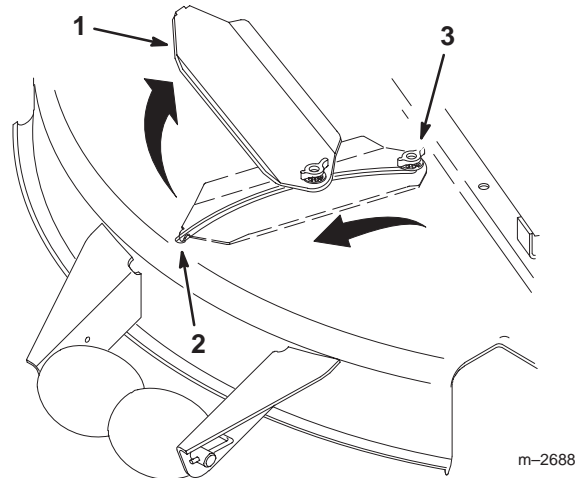

Figure 29
5. Loosen the wing nut on the front cover shaft (Fig. 29).
6. Lift the tab on the end of the slot cover up and out of the slot in the deck, then rotate the slot cover 180 degrees (Fig. 29).